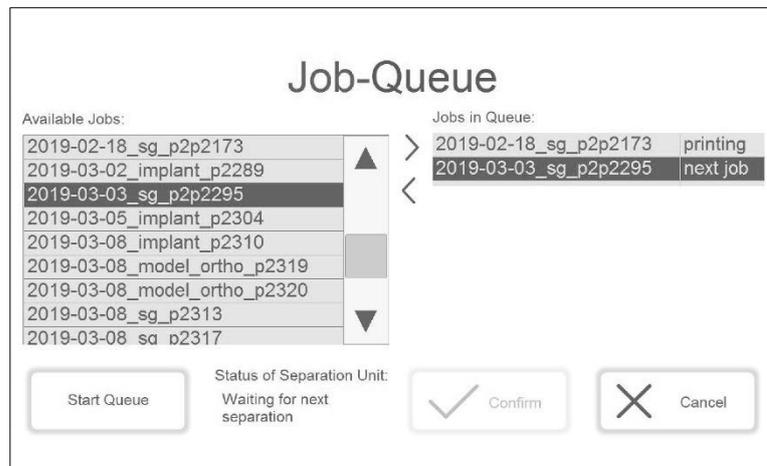

Figure 9: ‚Job-Queue‘
2. Select all jobs to be printed. → Figure 9